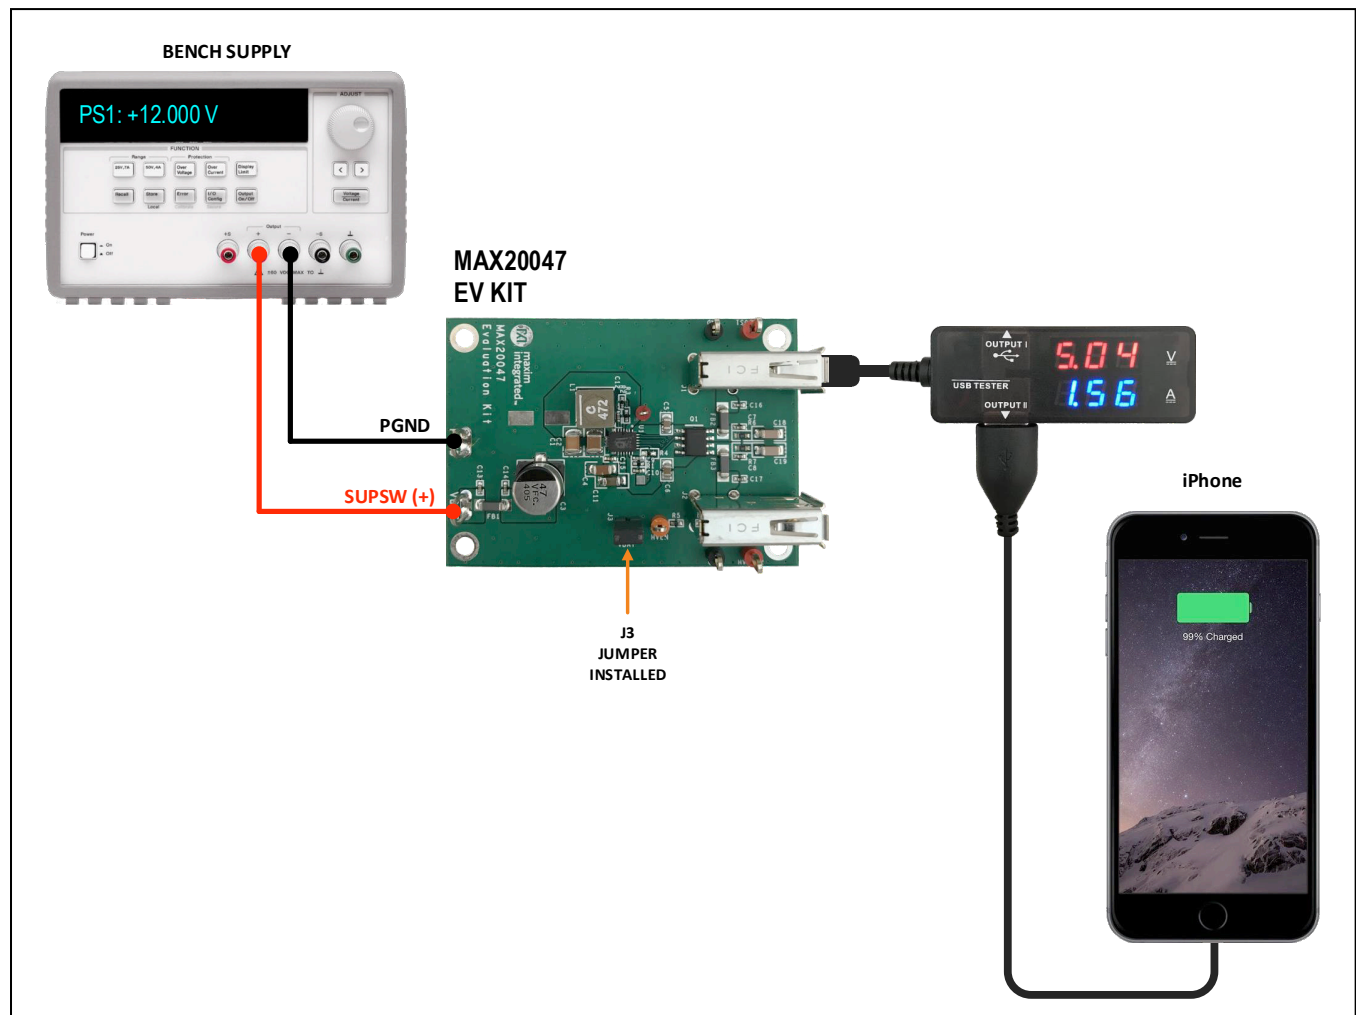

Figure 3. Test Setup for Verifying DCP Charger Detection with an iPhone
Figure 3 shows the test setup to evaluate the IC's VBUS port voltages.
- 1) Connect the equipment (see Figure 3), set PS1 to 12.000V, and enable the power supply output.